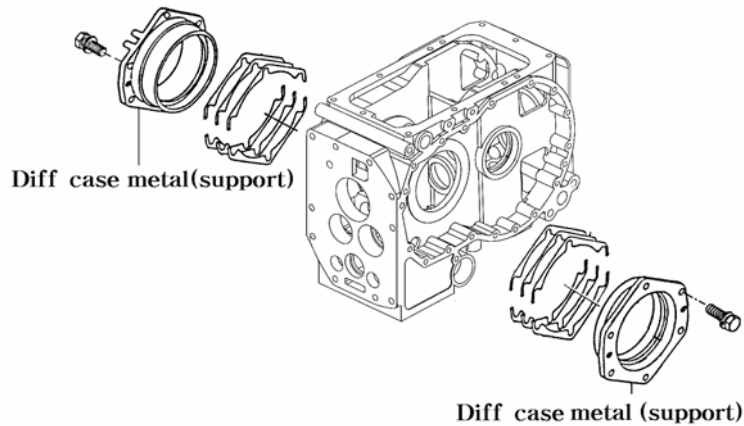

Fig.5-65
h. Backlash adjustment between the drive pinion and the ring gear pair (Fig 5-65)